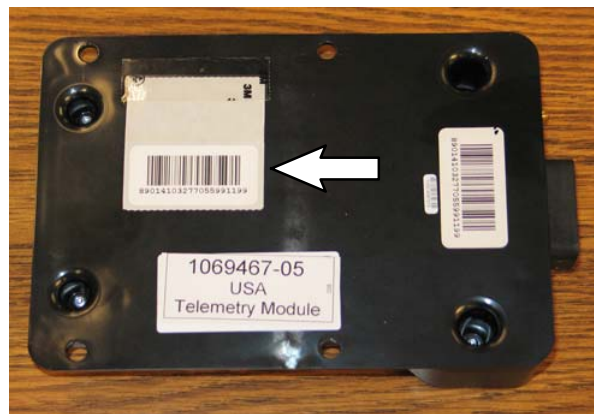

FIG. 7
11. Remove the additional SIM label from the back of the control box (1) and set label aside in a safe place. The number on the SIM label will be needed for activating the machine. (Fig. 7)